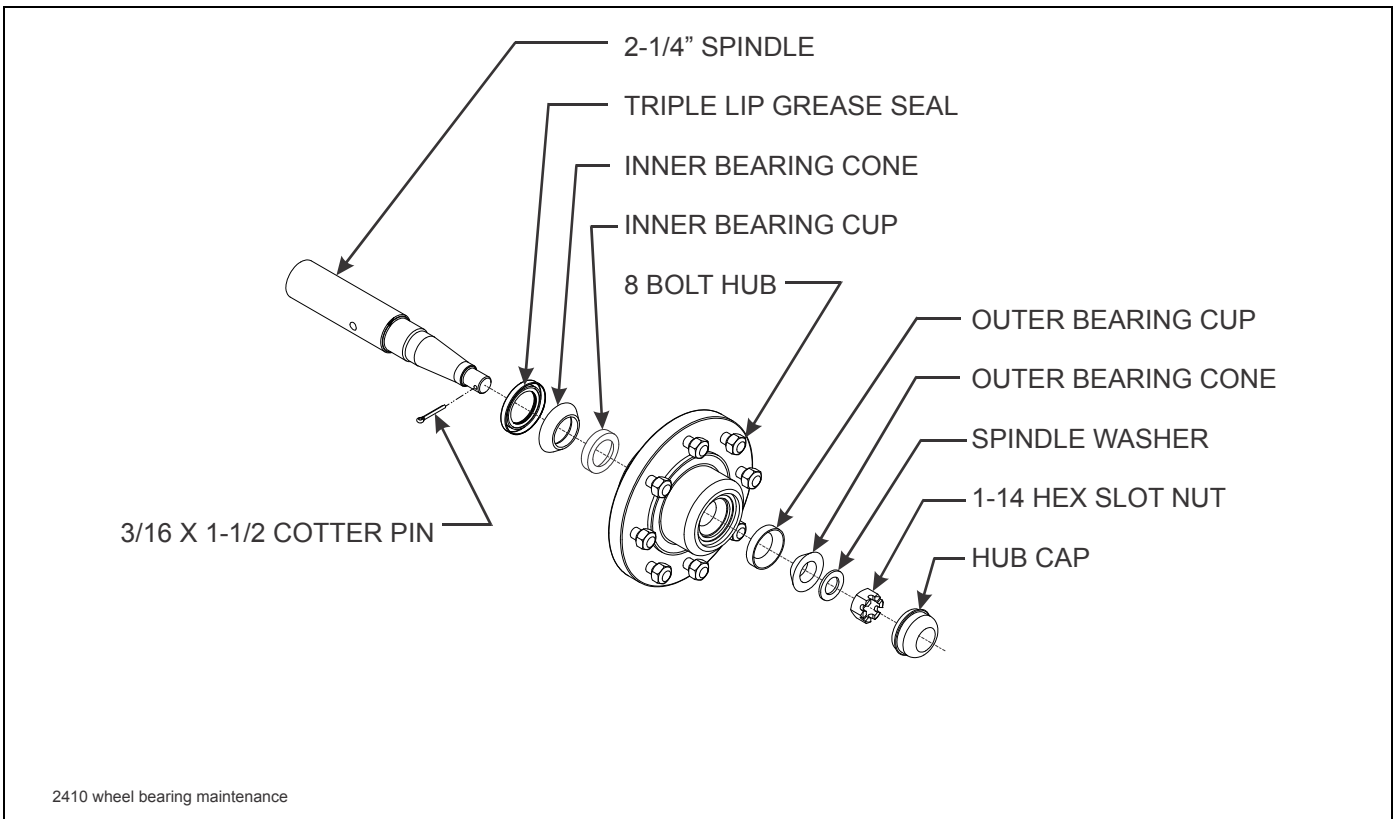

Figure 4-8: Wheel Bearing Maintenance
3. Remove the hub cap, cotter pin, slotted nut and washer (**See Figure 4-8.**)